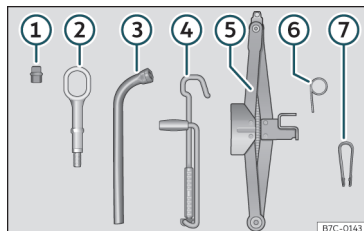

Fig. 58 Underneath the floor panel of the luggage compartment: on-board tools.
- Fit the plastic clip (vehicle tools »» **Fig. 58** ⑦) over the cap until it clicks into place »» **Fig. 59**.